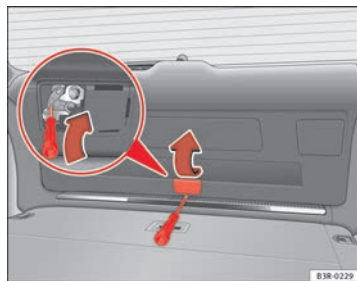

Fig. 76 Detail of the tailgate: emergency unlocking mechanism
- Lift the cover ⇒ fig. 76 -arrow-.
- Insert the screwdriver into the opening ⇒ fig. 76 -arrow- and push it in the direction of the arrow in order to release the tailgate. ■